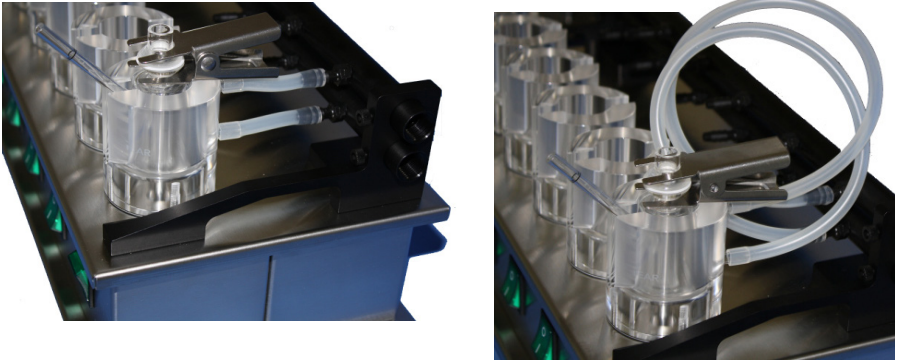

Figure 2 - Connecting cells to the manifolds - (left to right) Very short sections of latex tubing, and long lengths of tubing.
Place the Franz Cells into the cell holders of the stirrer. The barbed fittings of the manifolds can be connected with very short sections of the latex tubing supplied with the stirrer. Or, long lengths of tubing (as shown in Figure 2 below) may be used, which is probably the preferred method. In either case the cells need to be removed from the cell holders from time to time for cleaning or to remove bubbles from beneath the membrane. Quik-Disconnect® connectors may be purchased separately to facilitate frequent removal and replacement of the cells.
4. A roll of 3/16" ID soft silicone tubing, 3 feet for each cell, 18 feet for 6-station stirrers, that the user will connect the Franz Cells to the manifolds with, either the straight short direct way or with the large loops (See Figure 2 photo).